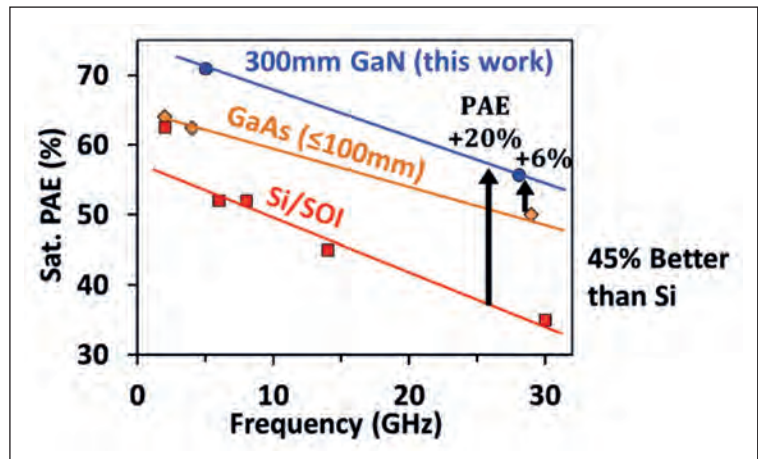

Figure 6. Intel's high- $\kappa$  e-mode GaN NMOS transistor significantly outperforms GaAs and silicon/SOI across a frequency range spanning 1 GHz to 30 GHz.
Our devices also deliver excellent RF performance. Our high- $\kappa$  GaN NMOS transistor significantly outperforms those based on GaAs and silicon/SOI transistors in power-added efficiency across a wide frequency range that spans 1 GHz to 30 GHz (see Figure 6). Due to the excellent knee voltage and on-resistance, efficient power amplifier (PA) operation is realised at drain voltages as low as 1 V (see Figure 7).